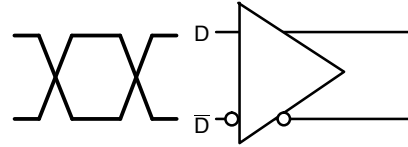

Figure 11. Differential Inputs Driven Differentially
**DIFFERENTIAL INPUTS DRIVEN DIFFERENTIALLY** (Figures 11, 13) (Note 16)
**DIFFERENTIAL INPUTS DRIVEN DIFFERENTIALLY** (Figures 11, 13) (Note 23)